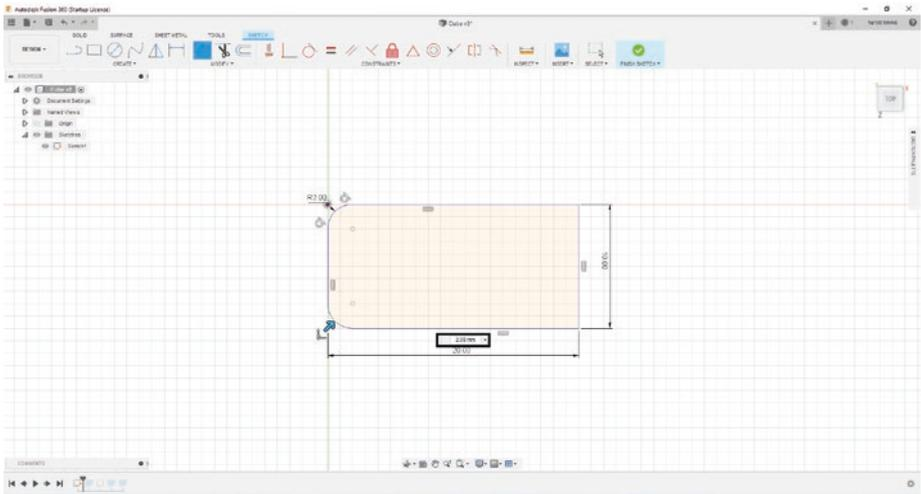

Figure 3-77. 2mm fillets
- 33. In the text box, put 2mm and press enter (don't mind the warning that you may get when you do this). Press "Enter" when you are finished. See Figure 3-77.